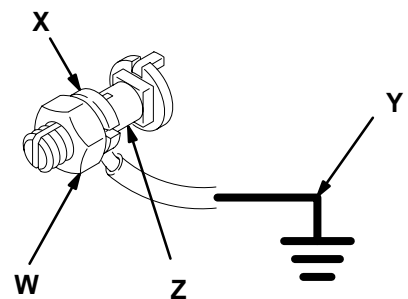

Fig. 3
1. *Pump*: loosen the grounding lug locknut (W) and washer (X). Insert one end of a 1.5 mm² (12 ga) minimum ground wire (Y) into the slot in lug (Z) and tighten the locknut securely. See Fig. 3. Connect the other end of the ground wire to a true earth ground.